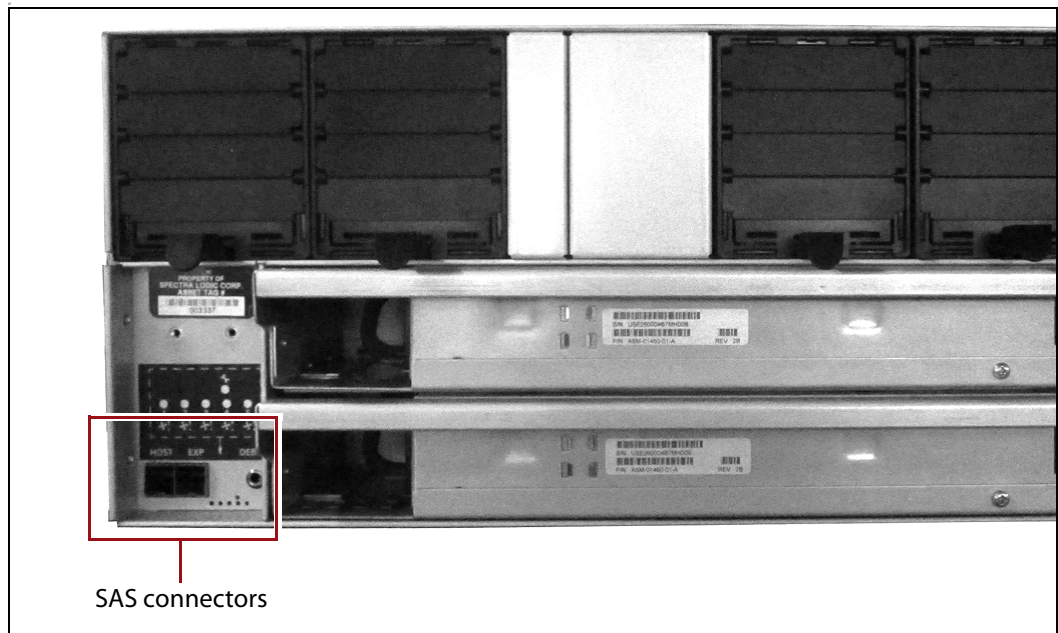

Figure 3 The rear view of the 96-drive disk solution.
6. Connect the cable to the **EXP** port on the 96-drive disk solution (see Figure 3).